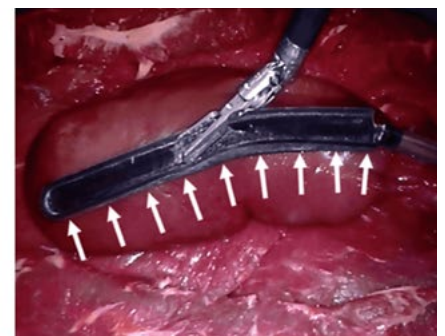

Figure 1: sample of surgical tasks addressed solved with automation algorithms.
I worked with three main applications of the pick and place task (Figure 1): pick-up of a circular needle prior to suture, pick and place of a Pneumatically Attachable Flexible (PAF) rail for intraoperative Ultrasound (US) scanning and retraction for intraoperative organ repositioning using the PAF rail.